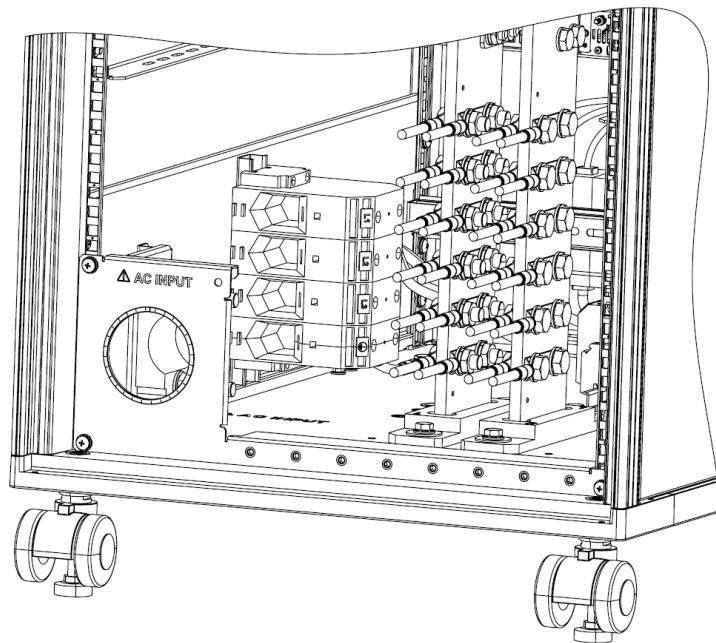
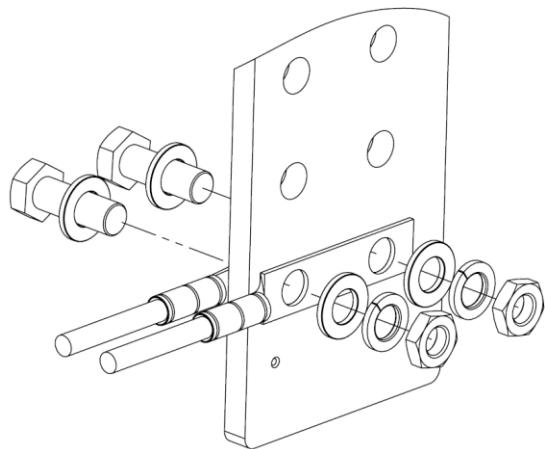

Figure 4-10: Output Wires Assembly
Figure 4-11: 10V-100V Wires Assembly
1. Fix the wires to the Bus bars as shown in Figure 4-10 and Figure 4-11.